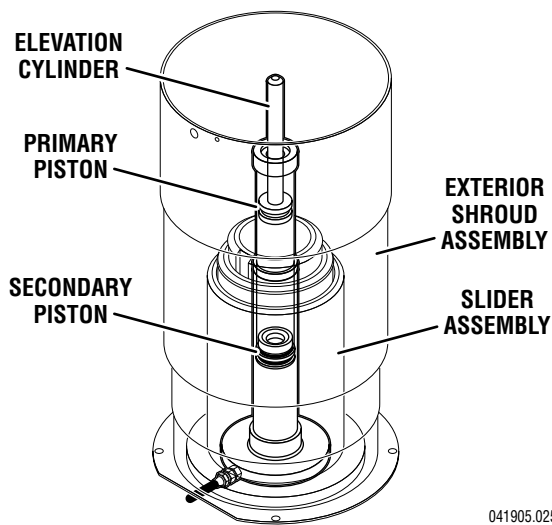

Figure 1-11. Elevation Cylinder Assembly
4. **Elevation Cylinder** - This single action cylinder does not have hydraulic fluid on both sides of the piston. It depends on the weight of the table top assembly to lower it. The cylinder is set in the center of the elevation main column. The two stage cylinder is elevated by the driven force of the oil pressure. When lowering, the oil that is accumulated in the cylinder is returned to the oil reservoir through the mini-valve due to the table top weight. A slider support assembly is used to support the weight of the upper table section. A stainless steel shroud covers the flexible hydraulic hoses and slider. See figure 1-11.